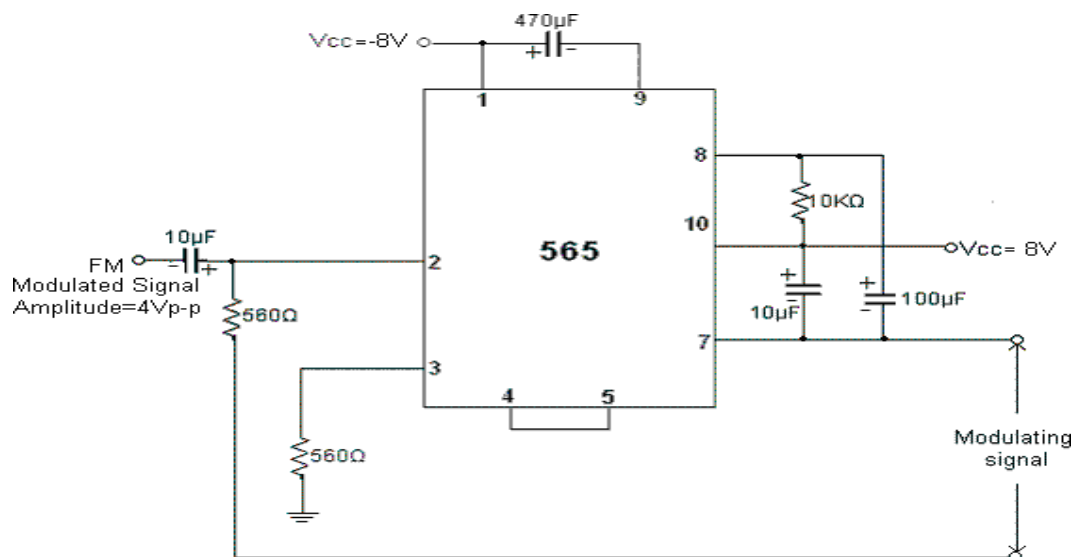

Fig.3.3. FM Demodulator Circuit
1. Connections are made as per circuit diagram shown in Fig.3.3